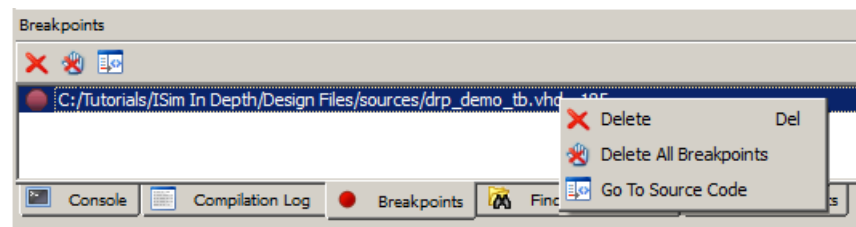

Figure 3-35: Breakpoints Panel and Right-Click Menu Options
- Go to the line of source code for a selected breakpoint, see Figure 3-35.